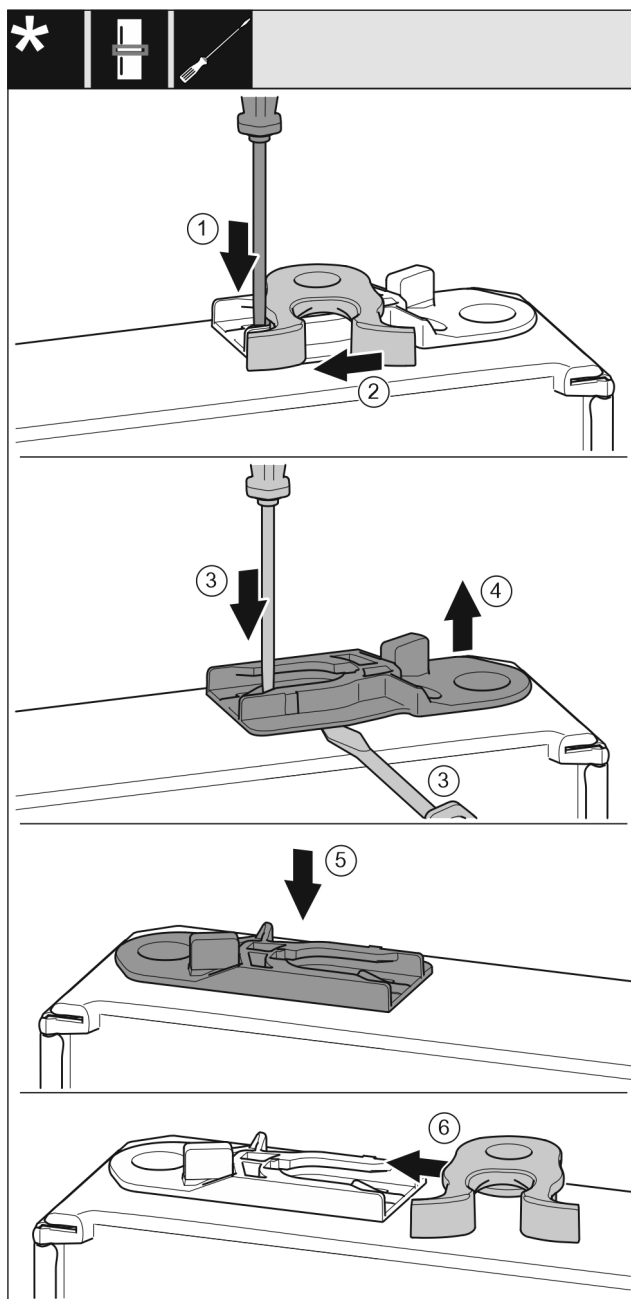

Fig. 20
- Use a slotted screwdriver to push the tab Fig. 20 (1) downwards.
- Pull the closing hook Fig. 20 (2) out of the guide.
- Pull out the guide bush Fig. 20 (3, 4): Press the tab with a flat-blade screwdriver and at the same time move the flat-blade screwdriver under the guide bush.
- Insert the guide bush Fig. 20 (5) supplied on the other side of the housing.
- Slide the closing hook Fig. 20 (6) into the guide.